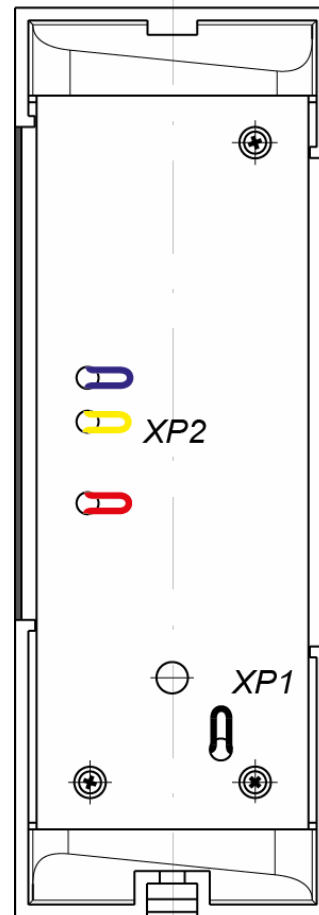

Figure 4 – Jumpers «reader number» (XP2), jumper «switch off end-of-line resistor» (XP1)
- Using the three jumpers **XP2** (see Fig. 4 and Table 1) set the reader number, for which you need to snap the necessary jumpers with a pliers. Cut bridges should not contact other bridges and with a metal base.